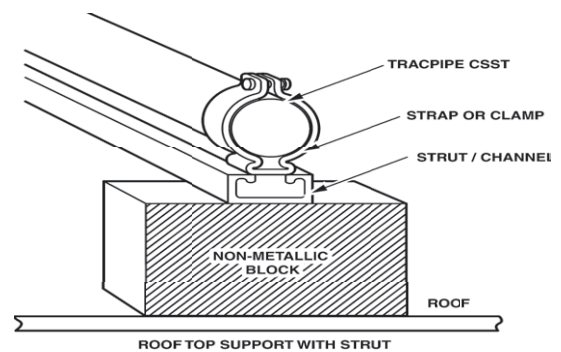

Figure: 4-36
3. **TracPipe® CounterStrike®** may be supported with strut/channel running from block to block beneath the flexible gas pipe. Galvanized shallow channel (13/16 inch) with splice plates at joints and bends provides a secure, damage resistant "track". With metallic strut support, blocks can be reduced to every 8 feet. The **TracPipe® CounterStrike®** should be firmly attached to each block with metallic clamps designed for the strut or appropriate fastening mechanism. Figure: 4-36. Black cable ties (UV resistant) at intermediate points facilitate rolling out the **TracPipe® CounterStrike®**.